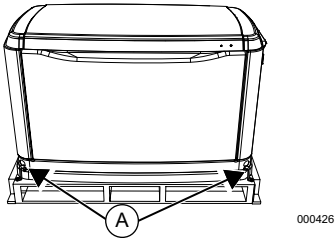

Figure 2-3. Pallet Bracket Locations
- See **Figure 2-3**. Remove bolts and pallet brackets (A). Exercise caution when removing generator. Dragging it off pallet will damage base. The unit must be lifted from wooden pallet to remove.